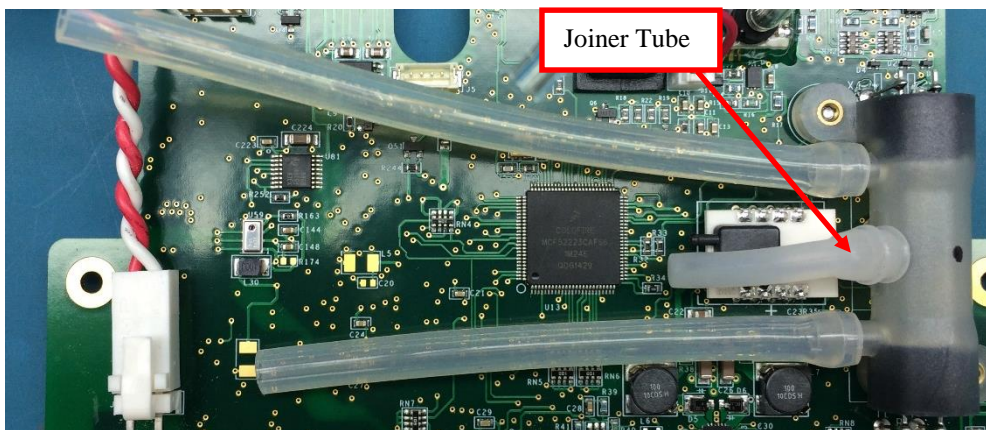

Figure 11: Disconnect tubing from oxygen sensor
- Locate the breath detect on the motherboard and unplug the Joiner Tube from the oxygen sensor by pulling the tube off of the barb (Figure 11).
2. Plug the Joiner Tube onto the barb on the oxygen sensor (Figure 11).